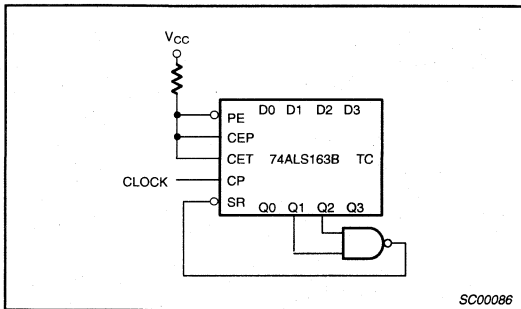

Figure 1. Maximum Count Modifying Scheme
For the 74ALS163B the clear function is synchronous. A Low level at the synchronous reset (SR) input sets all four outputs of the flip-flops (Q0 – Q3) to Low levels after the next positive-going transition on the clock (CP) input (provided that the setup and hold time requirements for SR are met). This action occurs regardless of the levels at CP, PE, CET and CEP inputs. The synchronous reset feature enables the designer to modify the maximum count with only one external NAND gate (see Figure 1).